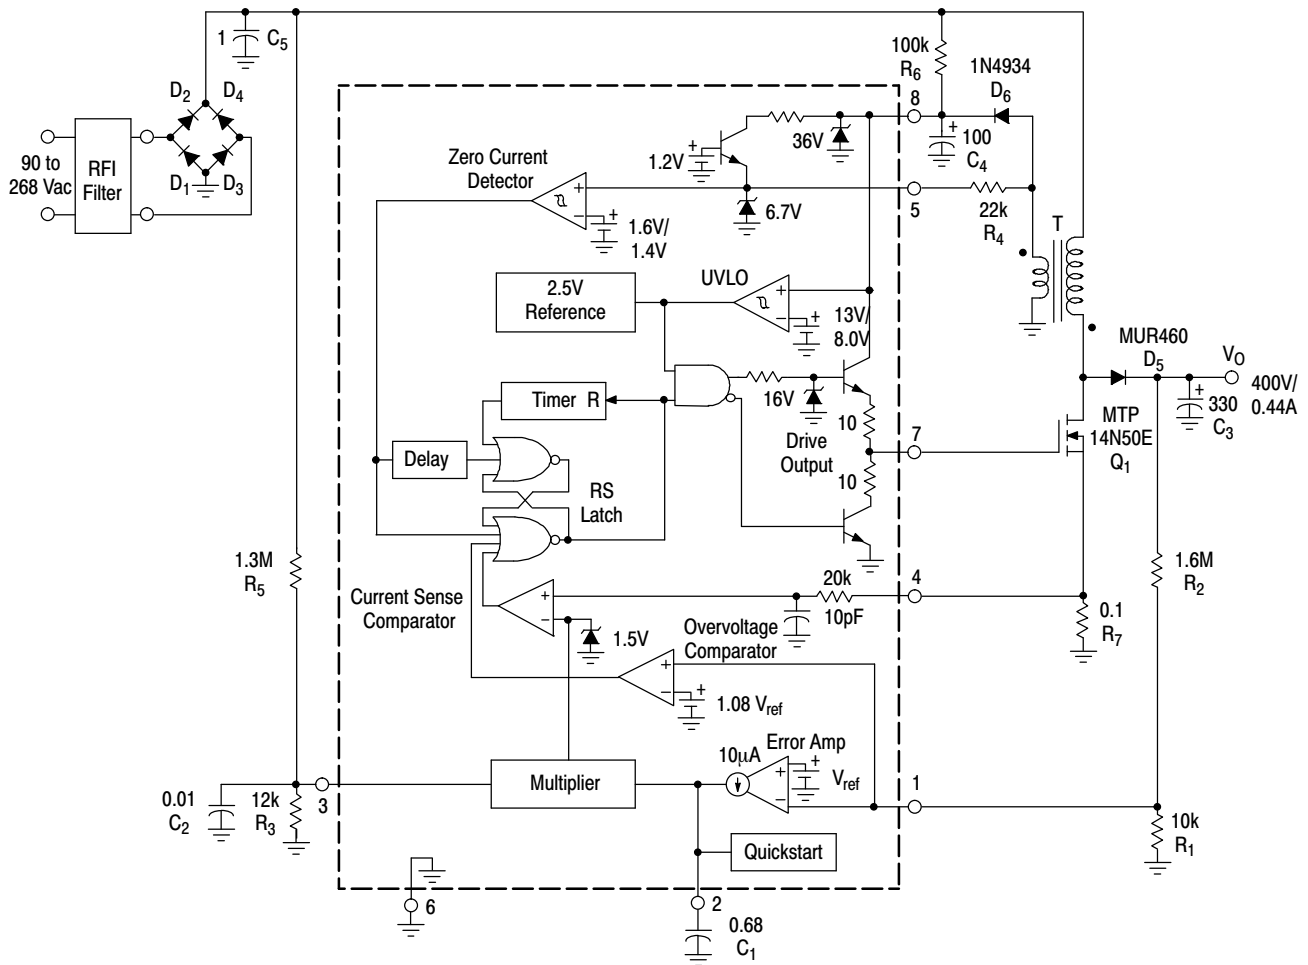
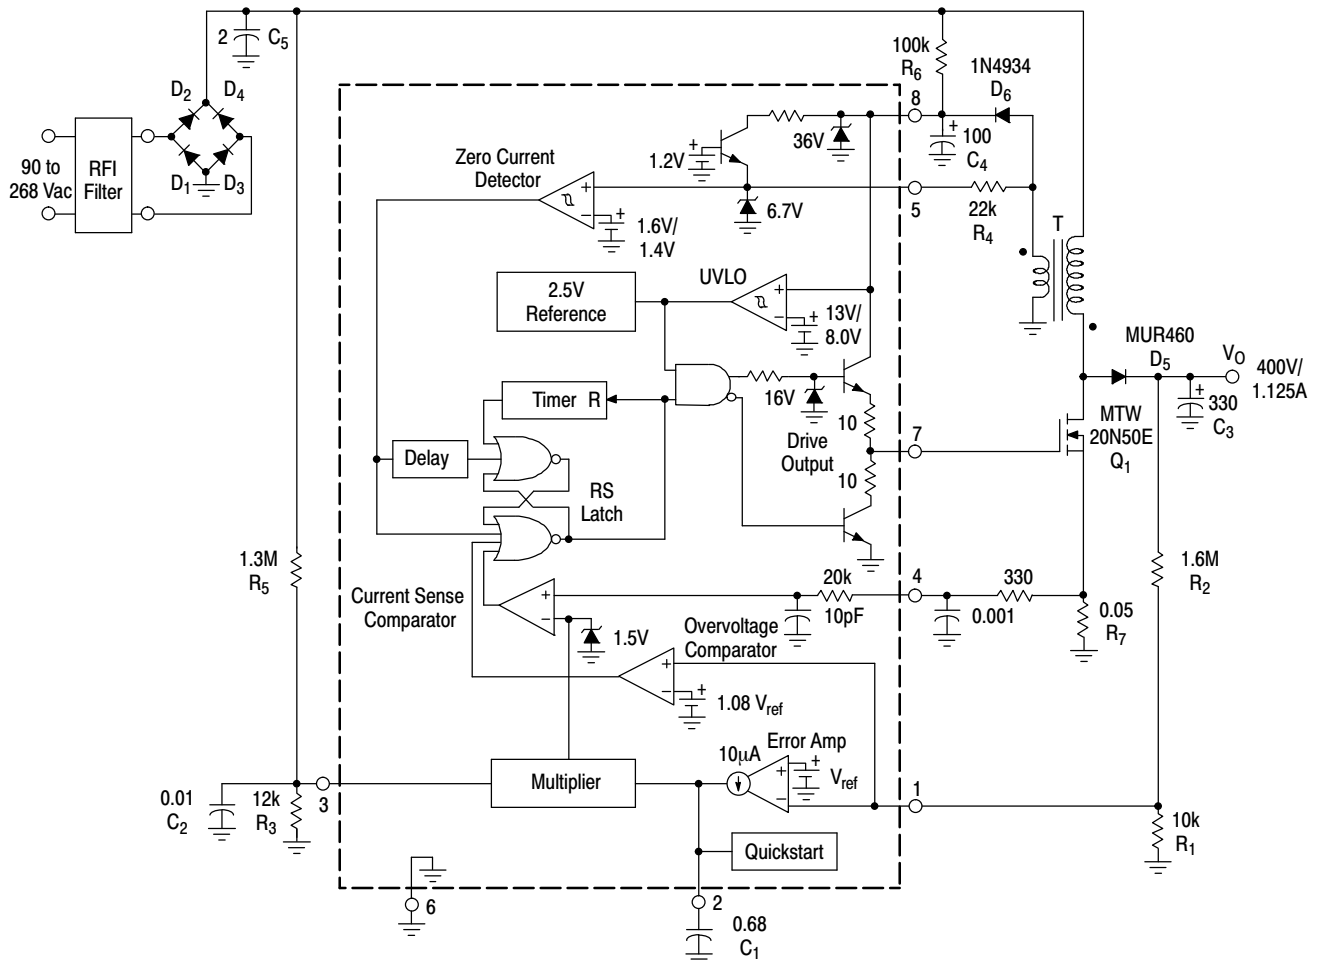

Figure 21. 175 W Universal Input Power Factor Controller
Figure 22. 450 W Universal Input Power Factor Controller
An internal RC filter has been included to attenuate any high frequency noise that may be present on the current waveform. This filter helps reduce the ac line current distortion especially near the zero crossings. With the component values shown in Figure 21, the Current Sense Comparator threshold, at the peak of the haversine varies from 1.1 V at 90 Vac to 100 mV at 268 Vac. The Current Sense Input to Drive Output turn-off propagation delay is typically less than 200 ns.
0.998 at nominal line. Figures 21 and 22 are universal input preconverter examples that operate over a continuous input voltage range of 90 Vac to 268 Vac. Figure 21 provides an output power of 175 W (400 V at 440 mA) while Figure 22 provides 450 W (400 V at 1.125 A). Both circuits have an observed worst-case power factor of approximately 0.989. The input current and voltage waveforms of Figure 21 are shown in Figure 23 with operation at 115 Vac and 230 Vac. The data for each of the applications was generated with the test set-up shown in Figure 25.
An RFI filter is required for best performance when connecting the preconverter directly to the ac line. The filter attenuates the level of high frequency switching that appears on the ac line current waveform. Figures 20 and 21 work well with commercially available two stage filters such as the Delta Electronics 03DPCG5. Shown above is a single stage test filter that can easily be constructed with four ac line rated capacitors and a common-mode transformer. Coilcraft CMT3-28-2 was used to test Figures 20 and 21. It has a minimum inductance of 28 mH and a maximum current rating of 2.0 A. Coilcraft CMT4-17-9 was used to test Figure 22. It has a minimum inductance of 17 mH and a maximum current rating of 9.0 A. Circuit conversion efficiency  $\eta$  (%) was calculated without the power loss of the RFI filter.